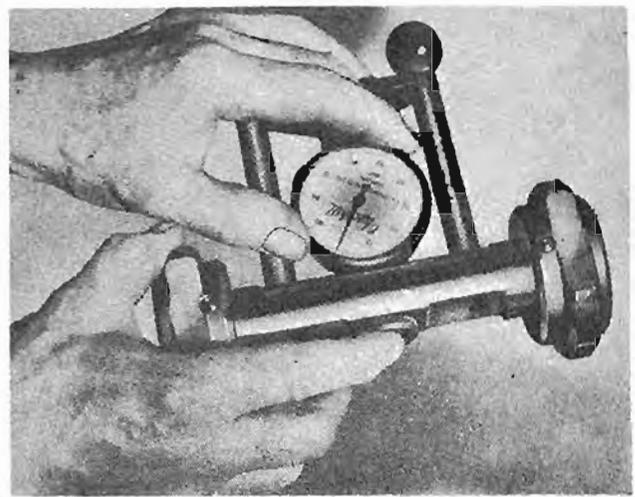

Fig. 20 Utilising the "button", the Pinion Setting Gauge (Churchill Tool No. M84) is set to zero.
- (iii) Install the pinion setting gauge in the axle centre casing (Fig. 19), (after zeroing the dial with a ground button held firmly on the gauge plunger, Fig.20) and tighten bearing caps. This gauge is used to assess the shim thickness which